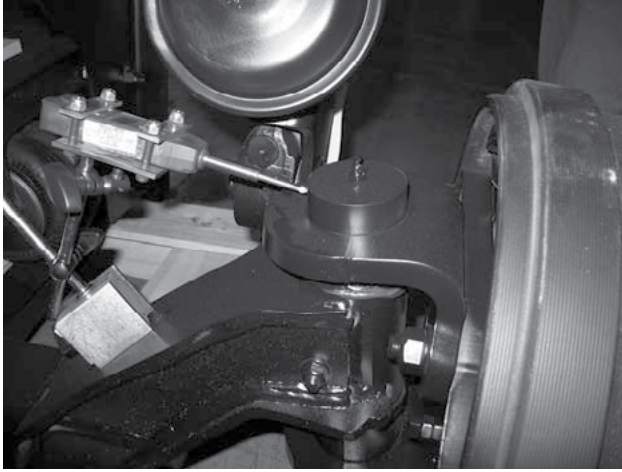

Figure 15. Upper Kingpin Bushing Check
3. Affix a magnetic base dial indicator on the axle and place the tip of the dial indicator on the inside of the upper kingpin connection as shown in Figure 15.